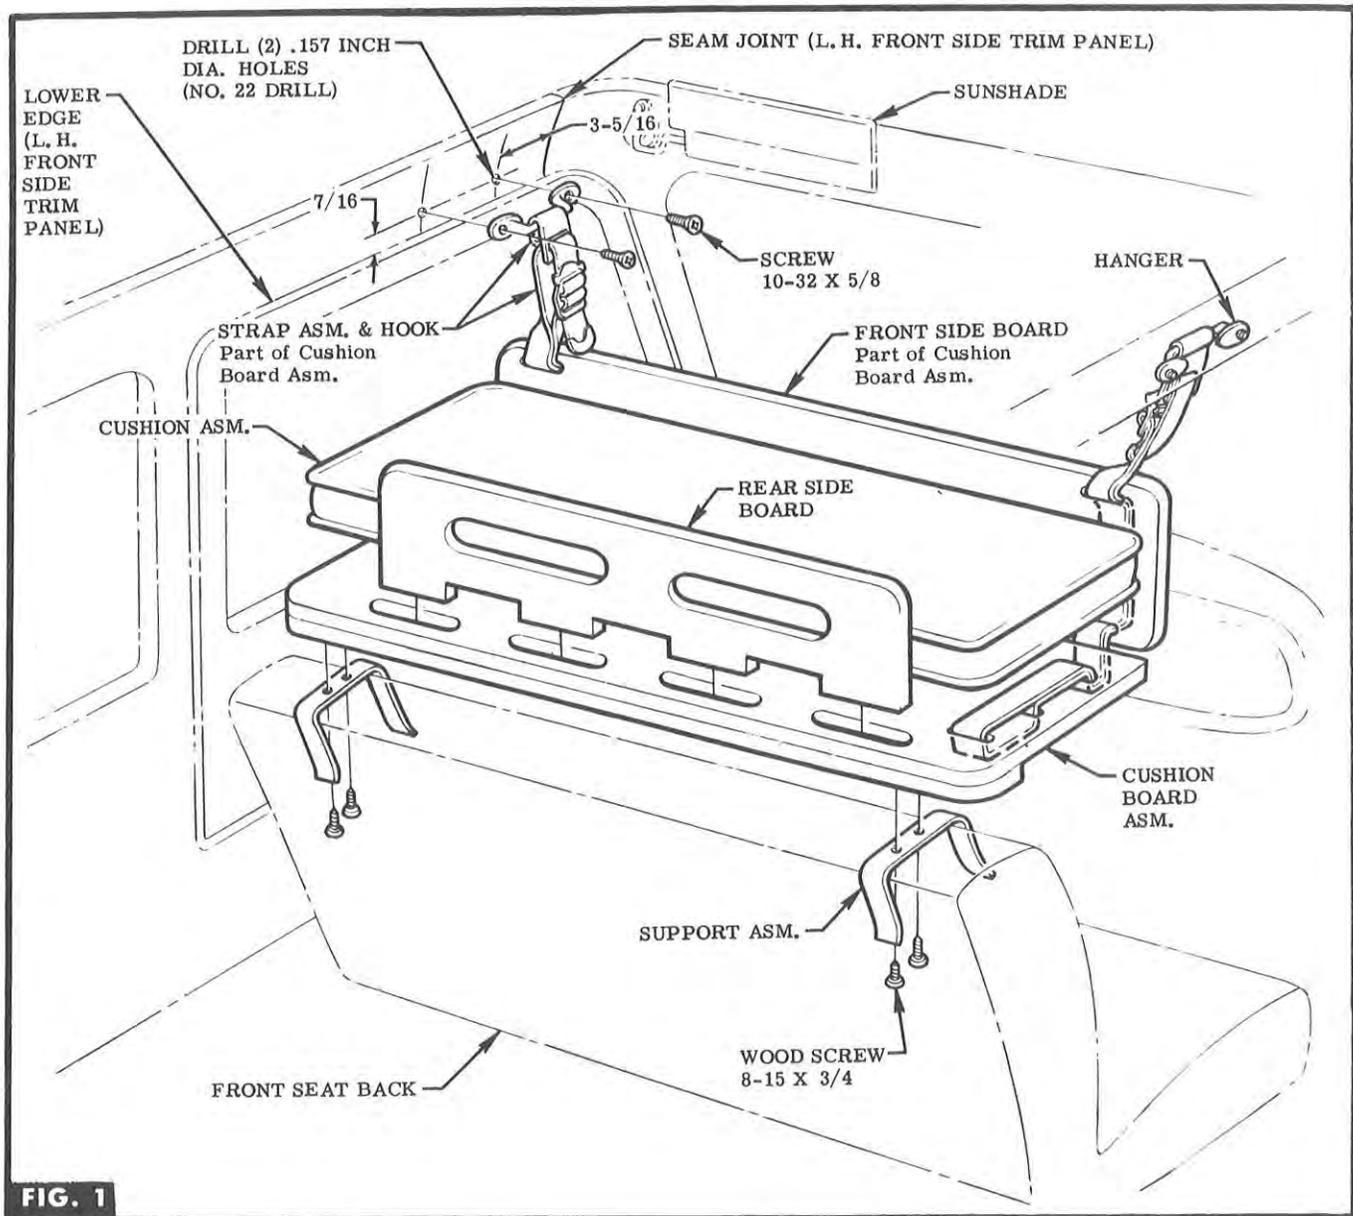

FIG. 1
STEP 1 LOCATE, CENTER PUNCH & DRILL HOLE IN L.H. & R.H. FRONT SIDE TRIM PANEL. USE STRAP HANGER AS TEMPLATE TO DRILL REMAINING HOLE. SEE FIG. 1.
STEP 2 INSTALL HANGER TO L.H. & R.H. TRIM PANEL WITH SCREWS. SEE FIG. 1.
STEP 3 LOCATE TWO HOLES IN EACH SUPPORT BY PIERCING THRU VINYL SLEEVE WITH AWL & INSTALL SUPPORTS TO CUSHION BOARD (PILOT HOLES PROVIDED) WITH SCREWS. SEE FIG. 1.